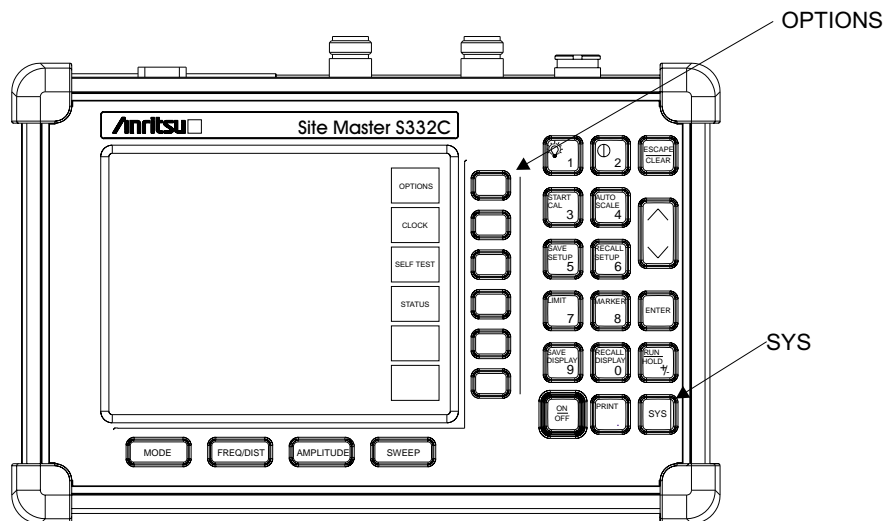

Figure 3-5-. SYS Key and OPTIONS Soft Key
Step 3. Press the **SYS** key and the **OPTIONS** soft key (Figure 3-5) .